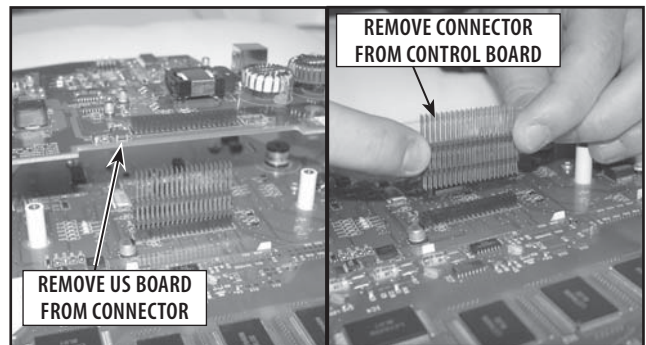

FIGURE 6.13
3. Carefully remove Ultrasound Board from the Control Board/Ultrasound Board Header. **Refer to Figure 6.13.**
4. Remove Control Board/Ultrasound Board Header. Be careful not to bend or damage any of the pins. **Refer to Figure 6.13.**